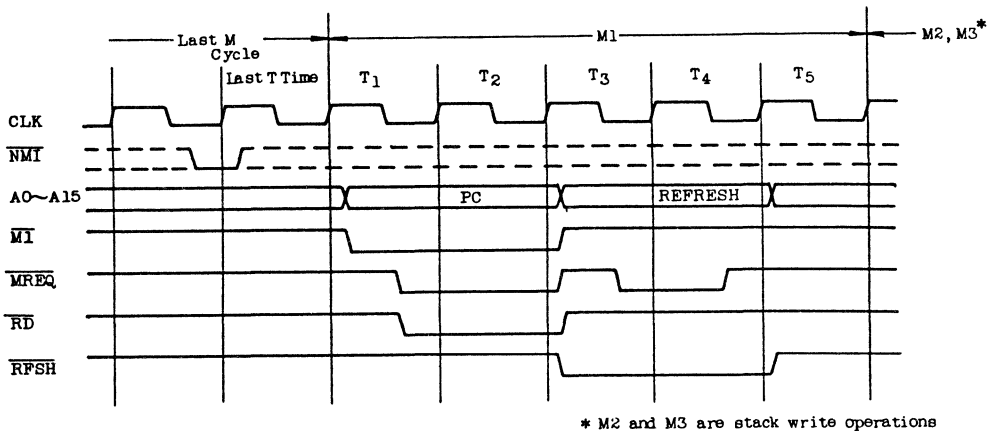

FIGURE 12. NON MASKABLE INTERRUPT RESPONSE
- Fig. 12 Non maskable Interrupt Request/Acknowledge Cycle
Figure 12 illustrates the request/acknowledge cycle for the non-maskable interrupt. A pulse on the  $\overline{\text{NMI}}$  input sets an internal NMI latch which is tested by the CPU at the end of every instruction. This NMI latch is sampled at the same time as the interrupt line, but this line has priority over the normal interrupt and it cannot be disabled under software control. Its usual function is to provide immediate response to important signals such as an impending power failure. The CPU response to a non maskable interrupt is similar to a normal memory read operation. The only difference being that the content of the data bus is ignored while the processor automatically stores the PC in the external stack and jumps to location 0066H. The service routine for the non maskable interrupt must begin at this location if this interrupt is used.